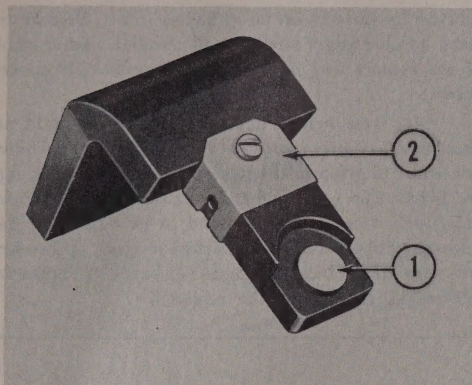

Figure 264 — Clutch Magnet Armature Assembly
(g) (See figure 264.) Check the clutch magnet armature assembly for damage to the thrust plug (1) which presses against the clutch and pinion assembly, and for wear on the copper spacer (2) which is fastened to the armature with a fillister-head screw. If the plug is damaged, it should be replaced. The thickness of this plug will determine the torque applied by the motor; therefore, it must be checked later in making this adjustment during reassembly. If the spacer is worn, or badly bent, it should be replaced. The knob and pin assembly on which the clutch magnet armature turns should be carefully inspected for wear; if wear is apparent, or if the pin is bent out of shape, it should be replaced. Carefully check the fit of the pin in the magnet armature to make sure that it turns freely on the pin. Also check the fit of the pin in the clutch magnet armature frame to make sure that it may be easily inserted. If the clutch armature spring stops are bent out of shape, or are distorted, they should be replaced.